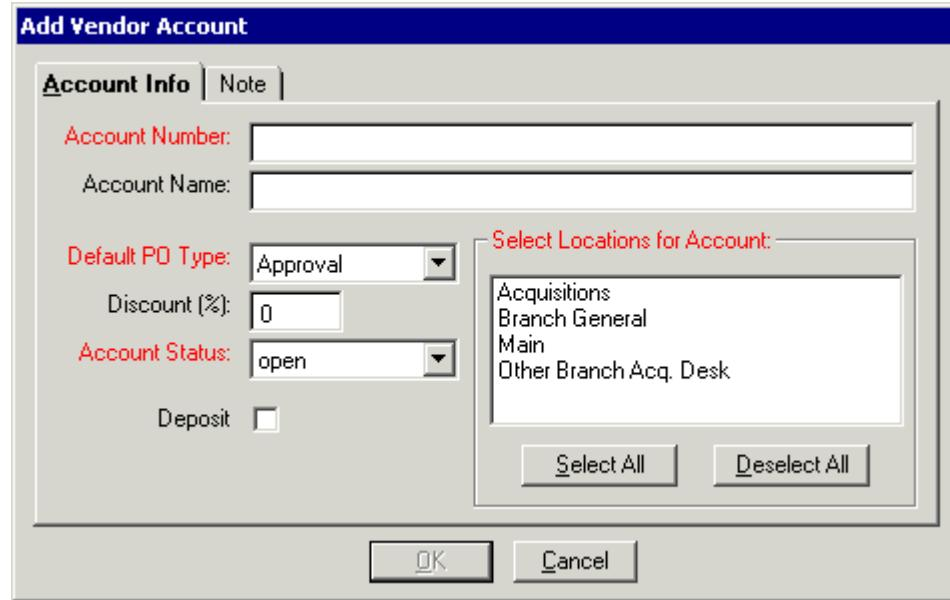

Figure 4-11. Add Vendor Account dialog box - Account Info tab
3. On the **Account Info** tab (Figure 4-11), enter the vendor-assigned account number for your institution in the **Account Number** field.